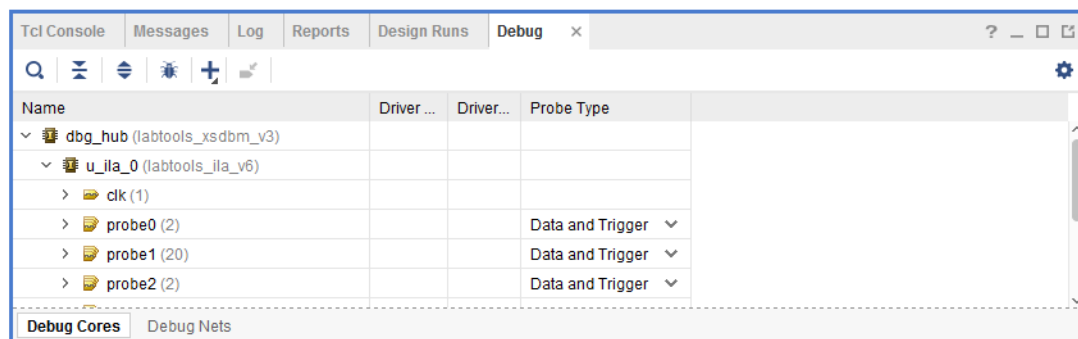

Figure 9-4: Assigned Debug Nets
10. The debug nets are now assigned to the ILA debug core, as shown in Figure 9-4.